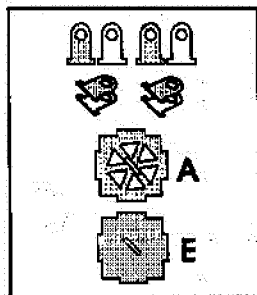

Figure 1
□ Step 1: Assemble and mount the shock-cord lugs. [Refer to Figure 1]
Locate the four plywood lugs as shown at the top of *Figure 1*. Glue together 2 of the lugs face to face. Repeat with the 2 remaining lugs. Locate cross-section A and E. Remove any remaining cut-outs. Apply glue to each of the 2 slots in the cross-sections. Slide one of the lugs through the slot of cross-section A and slide the other lug through cross-section E. The lugs should seat completely all the way in the cross-sections.